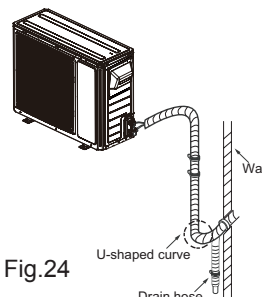

Fig.24
- (1) The pipes should be placed along the wall, bent reasonably and hidden possibly. Min. semidiameter of bending the pipe is 3 15/16inch.
- (2) If the outdoor unit is higher than the wall hole, you must set a U-shaped curve in the pipe before pipe goes into the room, in order to prevent rain from getting into the room.(As show in Fig.24)